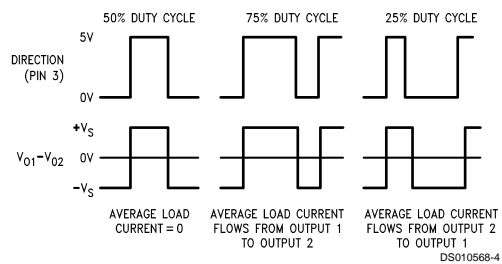

FIGURE 2. Locked Anti-Phase PWM Control
**Simple, locked anti-phase PWM** consists of a single, variable duty-cycle signal in which is encoded both direction and amplitude information (see Figure 2). A 50% duty-cycle PWM signal represents zero drive, since the net value of voltage (integrated over one period) delivered to the load is zero. For the LMD18200, the PWM signal drives the direction input (pin 3) and the PWM input (pin 5) is tied to logic high.